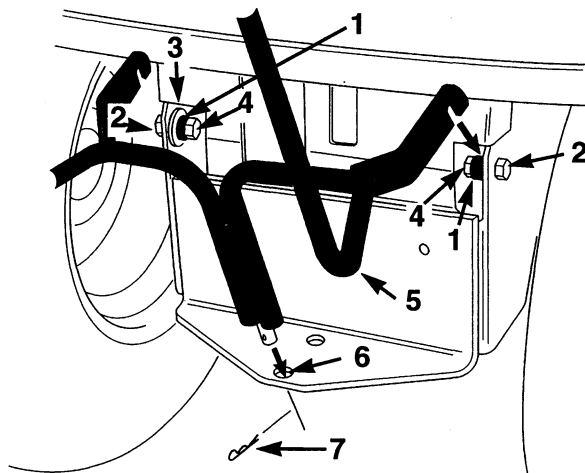

Figure 9
1. Slide the bottom of the quick-attach bracket down into the hole in the rear drawbar and hook the notches onto the spacers located inside the tractor frame (Fig. 9). Secure the quick-attach bracket with the large hairpin cotter.